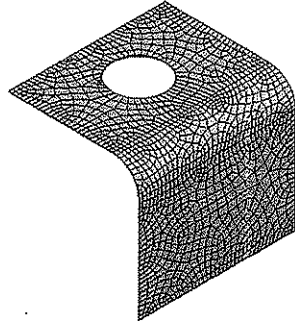

Figure 8-49 Mesh generated with default global mesh control settings
- 6. Right-click on **Mesh** in the **Tree Outline** and then choose the **Generate Mesh** option from the shortcut menu displayed; the mesh with default global mesh control settings is generated, as shown in Figure 8-49.
- 9. Update the mesh of the model by using the **Update** tool from the **Mesh** contextual toolbar; the mesh is now updated, refer to Figure 8-49.